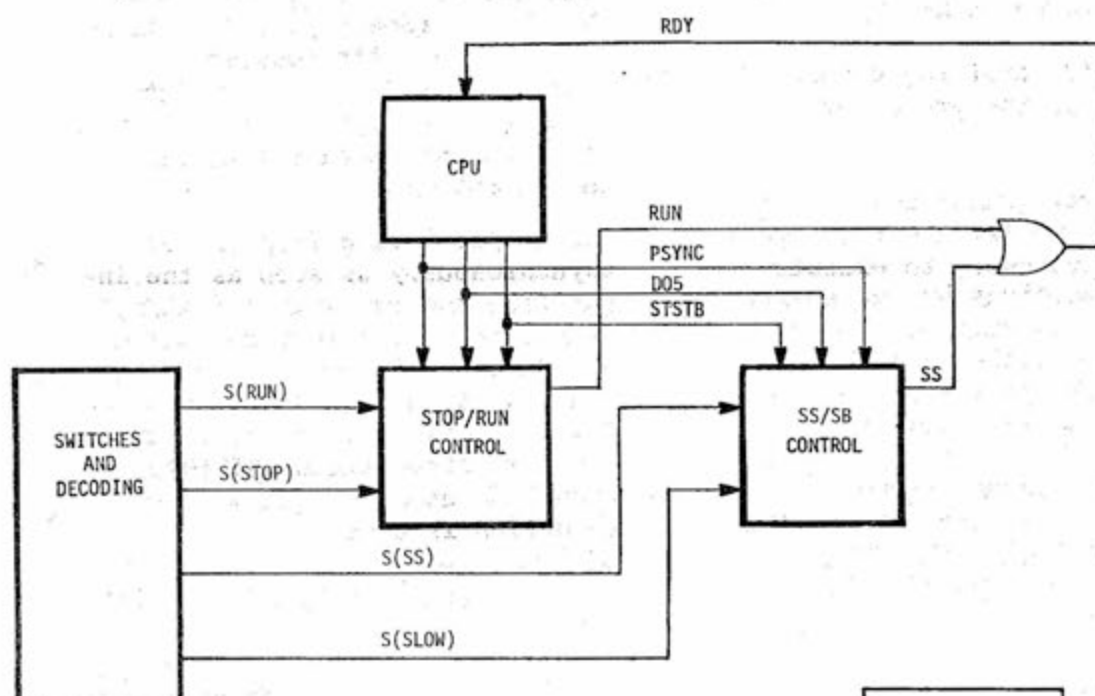

FIGURE 3. DISPLAY/CONTROL LOGIC READY LINE CONTROL CIRCUITRY
2. The outputs from the RUN, STOP, SINGLE STEP and SLOW switches go (in pairs) to similar circuits whose outputs (RUN and SS) control the RDY line ([RDY] = [RUN] OR [SS]). (See Figure 3.) Both of these circuits consist basically of flip-flops which, when set, force the outputs (RUN, SS) high and, when reset, force the outputs low.